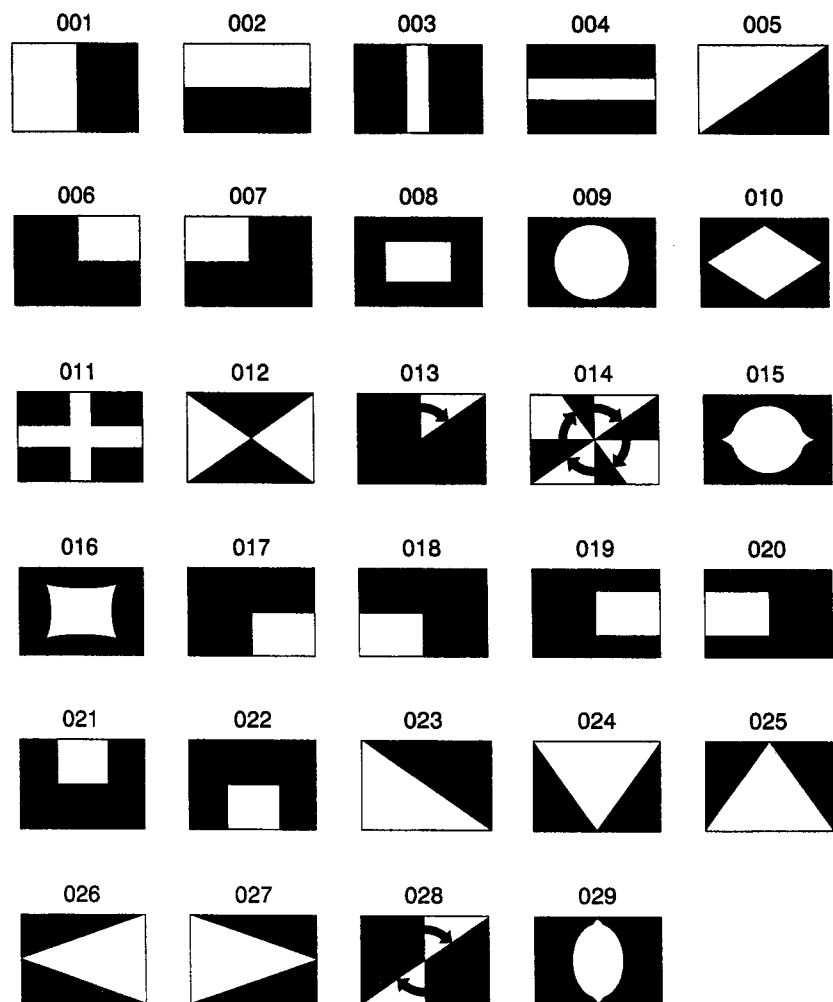

Fig. 6-1 List of wipe patterns
- Pattern No. 001 in Fig. 6-1 is selected when any number outside the range is specified.